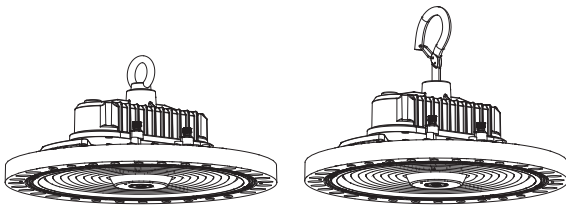

Figure 1
- Step 1: Drill holes on a ACL: Black/Brown, ACN: White/Blue, Green/Yellow, DIM +: Purple, DIM -: Pink, AUX: Black/White (As for the wire color of DIM+ and DIM-, pls check the light label.) surface as shown in Figure 1.
- Step 1. Screw the loop or hook into the fixture, tighten and fix it. (Figure 1)